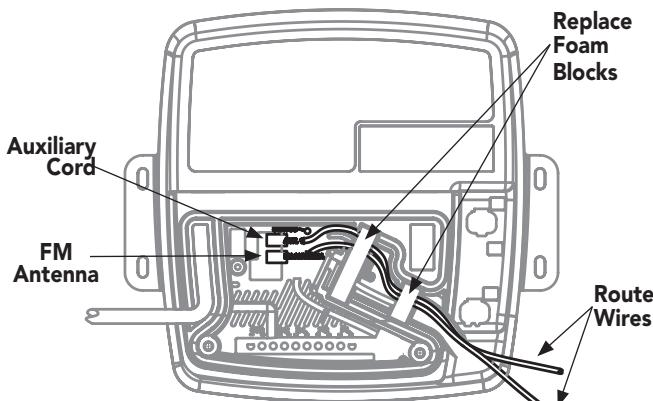

Figure 9
1. Plug the included FM antenna into the antenna output and route the wire through the strain relief channel as illustrated (Figure 9). For best reception, fully deploy the antenna in a vertical orientation outside of the AudioSteam housing.
2. Connect a 1/8" (3.5 mm) stereo audio cord (not included) to the auxiliary output, and route the cable through the strain relief channel as illustrated (Figure 9). Connect the free end of the audio cord to a mobile device or digital music player.
3. Replace the foam block inserts (Figure 9).